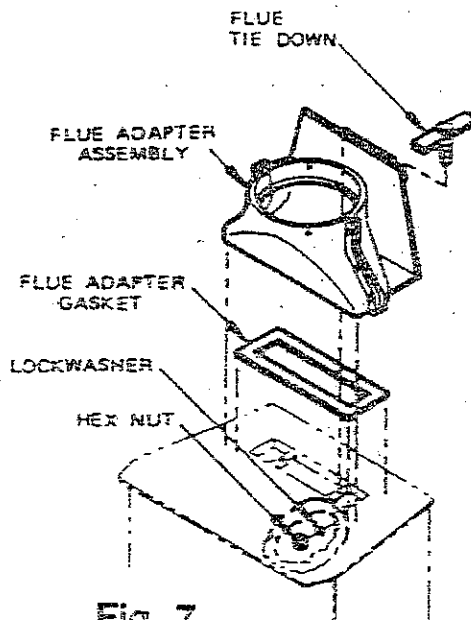

Fig. 7
1. Place flue gasket on flue adapter and install assembly into flue (Fig. 7).